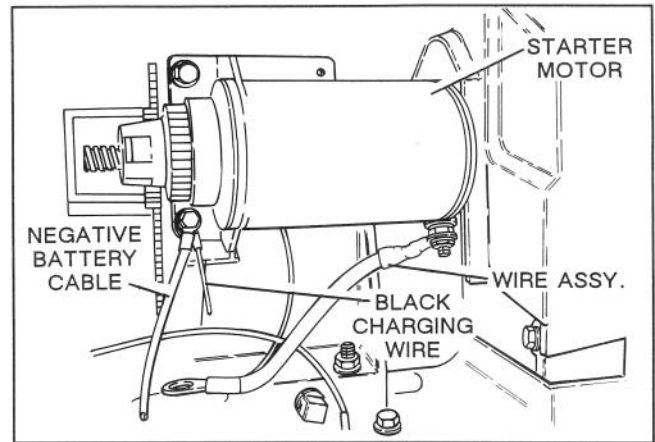
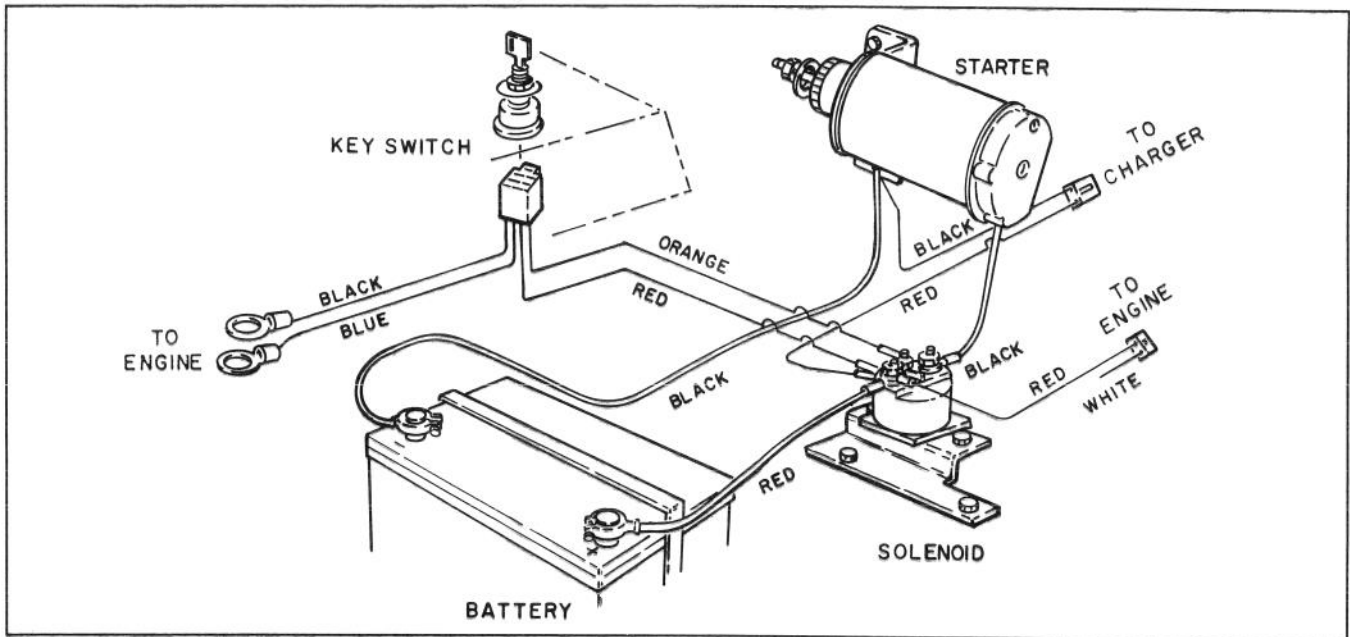

Figure 12
Figure 16
19. Secure starter motor assembly, negative (black) battery cable and black wire of charging plug (wire with ring terminal end) to engine with (2) 19mm (3/4") lg. capscrews as shown in fig.12 & fig. 16. Wires to be attached to bottom mounting screw.
24. Reinstall belt cover with (3) screws previously removed. Make sure cable cover is plugged into belt cover.
25. Install wire assembly connecting starter motor to inside terminal of solenoid (Fig.16).
26. Cut red wire from engine to length and attach ring terminal. Connect positive battery cable, red wire of wire harness, red wire of charging plug, and red wire from engine to outside terminal of solenoid (Fig.16).
27. Connect orange wire of wire harness to small terminal on solenoid with internal tooth lockwasher and #10 nut (Fig.16).